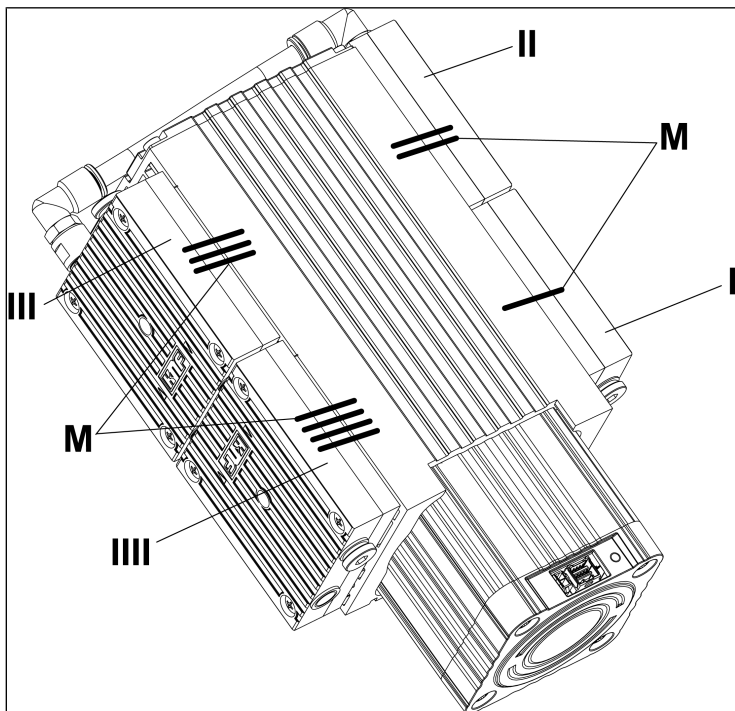
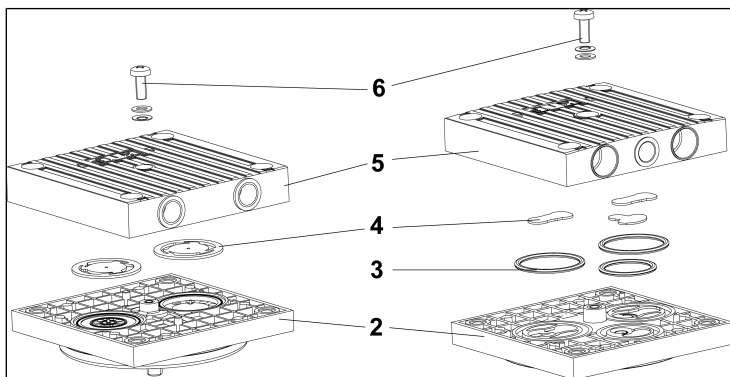

Fig. 5: Marking of the pump
Fig.8: Exploded view of the pump head
3. Head 1 (I/ Fig. 5):
4. Head 2 (II/ Fig. 5):
5. Head 3 (III/ Fig. 5):
6. Head 4 (IIII/ Fig. 5):
9. On both heads, loosen the head screw (6/ Fig. 8) in the head plate (5/ Fig. 8).
10. Remove the head plate from the intermediate plate (2/ Fig. 8).
1. Remove the valves (4/ Fig. 8) from the intermediate plates (2/ Fig. 8).
Remove the O-rings (3/Fig. 8).
3. Insert the new valves (4/Fig. 8) in the intermediate plates (2/Fig. 8).
Insert the new O-rings (3/Fig. 8) in the intermediate plates (2/Fig. 8).
5. Place the head plates (5/Fig. 8) on the intermediate plates (2/Fig. 8) according to the felt tip pen markings (M/Fig. 5).
6. On both heads, tighten the head screw of the head plate (6/Fig. 8) carefully, lightly and finger-tight (tightening torque: 60 Ncm).
5. Perform steps 6-8 (removing the pump head), as well as steps 1-6 (replacing the valve plates and fitting the intermediate plates) and steps 1-4 (replacing the diaphragms and fitting the pump head) for heads 3 and 4 (III and IIII/ Fig. 5).